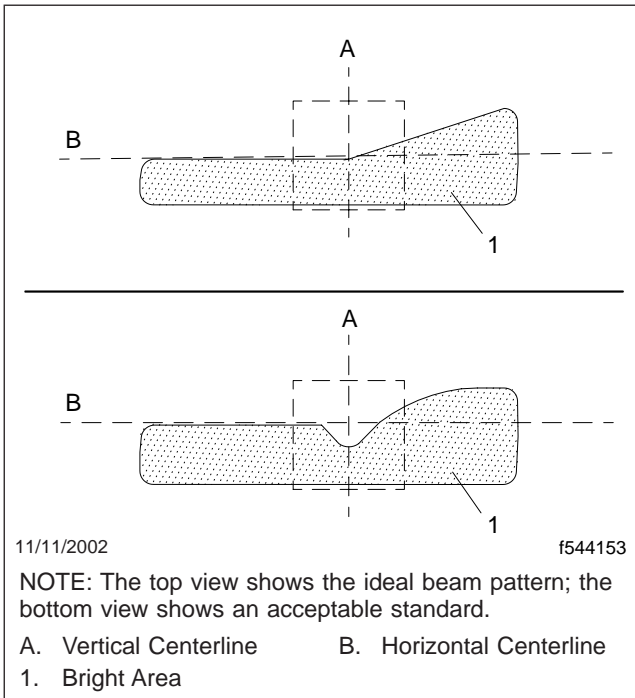

Fig. 15.5, Headlight Beam Pattern
2. With the vehicle parked 25 ft (7.6 m) from the screen or wall, put the headlights on low beams, and turn both adjusting knobs the same amount, as needed to adjust the lights until the beam pattern meets the acceptable standard in Fig. 15.5.